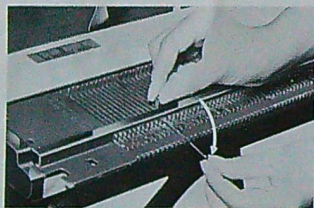

Fig. 3
- 4) Push down the hook of the needle, until shank end of the needle rises free of the needle bed. See Fig. 3